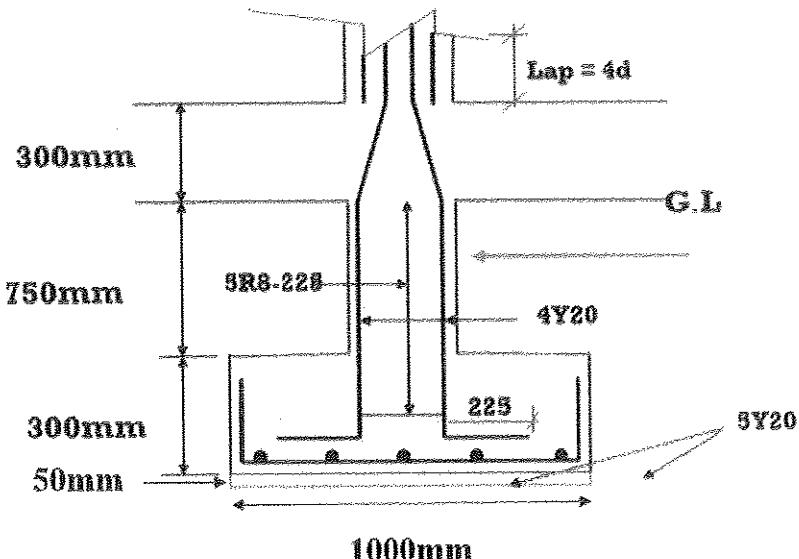

Figure B4(c) / Rajah B4(c)
- (b) Figure B4(a) shows a plan view of a floor. Based on the data given, calculate the quantity measurement for external Wall.
Rajah B4(a) menunjukkan pandangan pelan lantai. Berpandukan data yang diberi, kirakan pengukuran kuantiti bagi dinding luar.**Figure B4(a) / Rajah B4(a)**
- (c) Referring to the following Figure B4(c) and the data given, measure the quantity of reinforcement bar for main bars and links of a column stump in a dimension form.